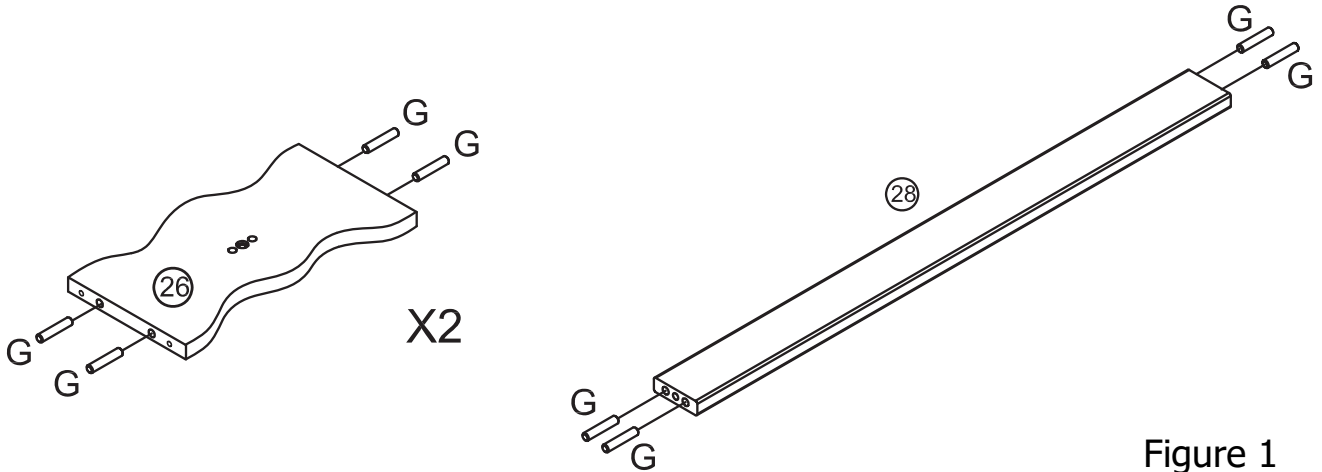

Figure 1
- Lay bench Legs (26) and Crossbar (28) flat down on a material that does not scratch the parts.
- Insert Wood Dowels (G) into the designated holes at each end of the parts as shown in Figure 1.